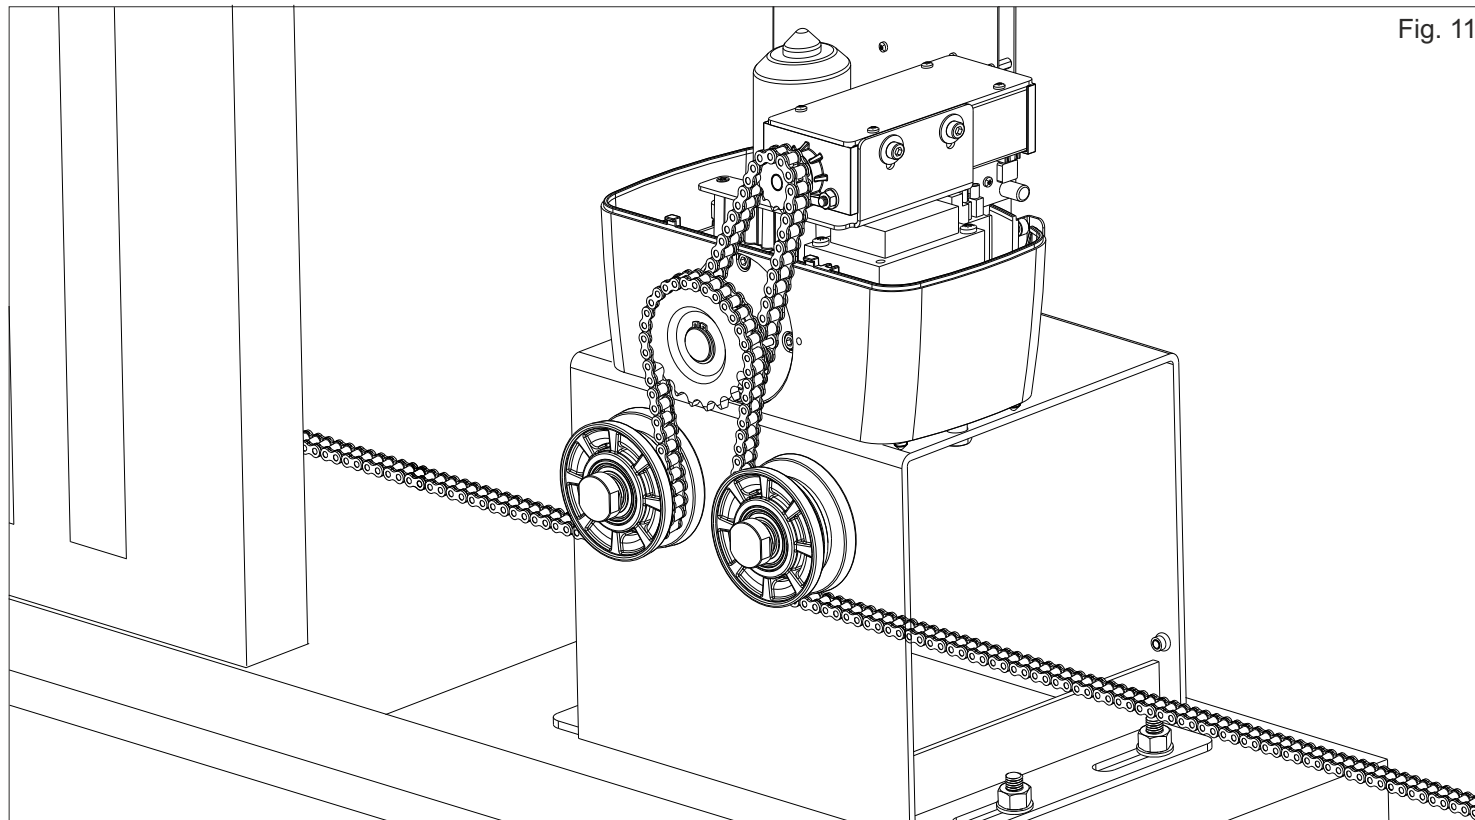
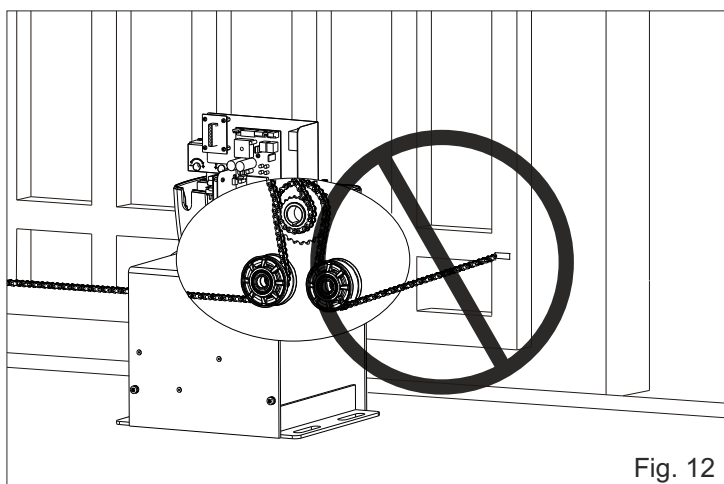

Fig. 11
Fig. 12
2. Install the chain making it pass through the pinion group as in fig. 11. The chain must be always in line both vertically and horizontally, if not perfectly aligned (fig. 12 and 13) it may derail from the pinion group or the motor reducer risks a greater effort not allowing the right operating of the system.